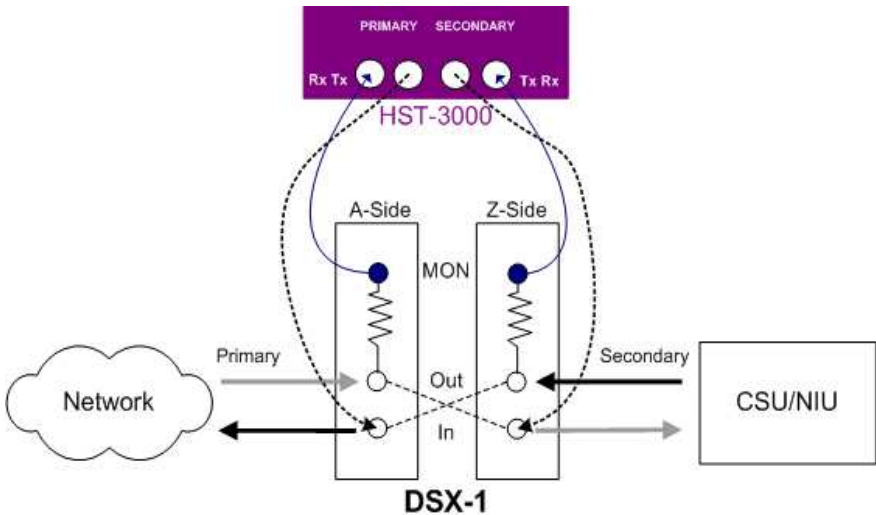

Figure 8 Drop and insert mode connection
- 9** Connect the HST-3000 to the test access point (see Figure 8 on page 60):